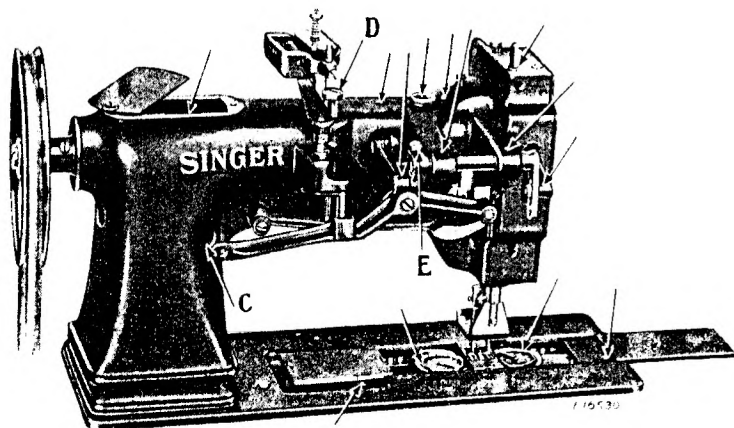
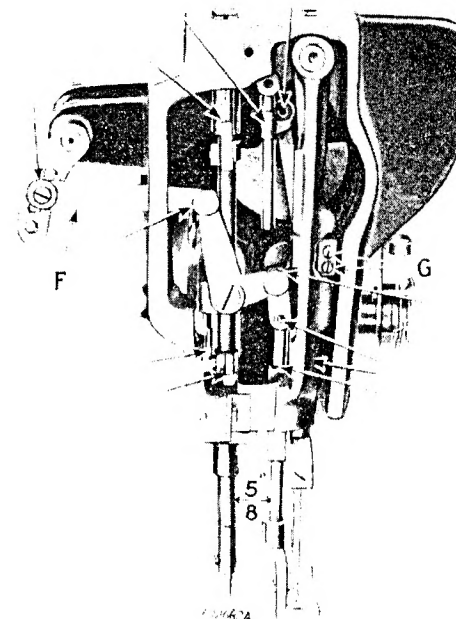
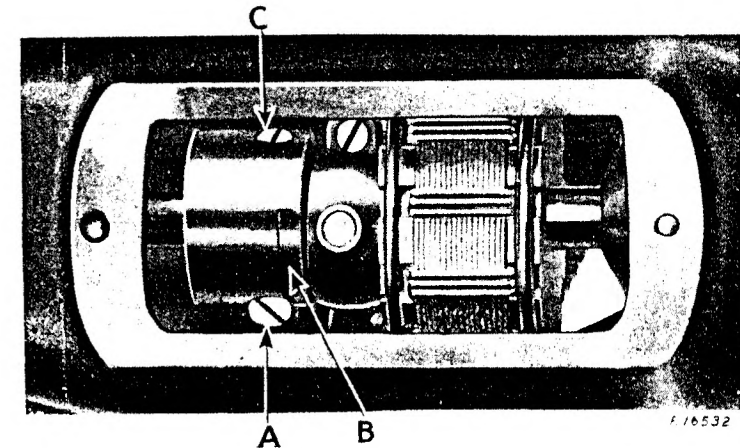

Fig. 3. Rear View of Machine
Fig. 4. End View of Machine Showing Oiling Points
Fig. 17. Feed Eccentric. Arm Cap Removed.
The length of stitch is regulated by the feed eccentric (B, Fig. 17) located on the arm shaft.
To lengthen the stitch, loosen screw (C, Fig. 17) turn the feed regulating screw (A, Fig. 17) over toward the left. To shorten the stitch, turn this screw (A, Fig. 17) toward the right. When the desired length of stitch is obtained, securely tighten screw (C).
To increase the pressure of the presser feet on the material, turn the thumb screw (D, Fig. 3), at the back of the machine, downward. To decrease the pressure, turn this thumb screw upward.
In case the needle bar is not correctly set, loosen the needle bar connecting stud pinch screws (G, Fig. 4) and place the needle bar in correct position as directed above, then retighten the screws (G).
Adjust the feed eccentric (B, Fig. 17) so that there is no feed movement of the needle bar frame, then set the needle bar so that when it rises  $1/8$  inch from its lowest position, the points of the sewing hooks will be about  $1/16$  inch above the eyes of the needles.
The distance between the vibrating presser bar and lifting presser bar, after adjusting the feed eccentric (B, Fig. 17) so that there is no feed movement of the needle bar, should be  $5/8$  inch as shown in Fig. 4.
If the distance between the vibrating presser bar and the lifting presser bar is more or less, insert a screwdriver in the hole at (C, Fig. 3) at the rear of the machine and loosen the clamp screw which holds the needle bar rock frame rock shaft. While this screw is loose, the needle bar frame can be moved forward or backward to the required distance. A piece of metal of the correct width may be used to determine the correct distance. When making this adjustment be sure to see that the feed eccentric (B, Fig. 17) is set so that there is no feeding movement of the needle bar. When the adjustment has been made, securely tighten the clamp screw at C.
The height of lift of the pressers is adjustable by moving the link (F, Fig. 4) to any of the four holes in the rock shaft crank. The maximum lift is secured with the link in the bottom hole. The amount of lift should be regulated according to the thickness of the material being sewn. The feet should lift just high enough to clear the material.
Adjust the feed eccentric (B, Fig. 17) so that there is no feeding motion.